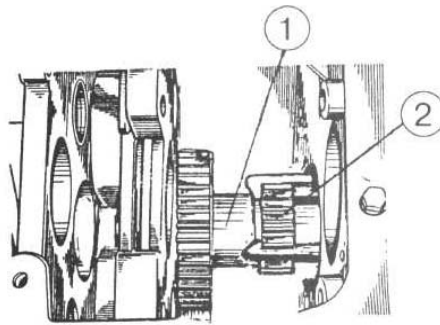

Figure 4.92
e) using puller press off shaft 1 (Figure 4.92) gear 2 with internal bearing shell;